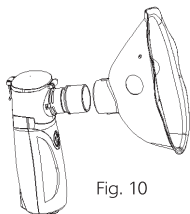

Fig. 10
1. Connect mask connector to the medicine tank opening, then connect mask to the mask connector. (Refer to Fig. 10,11).